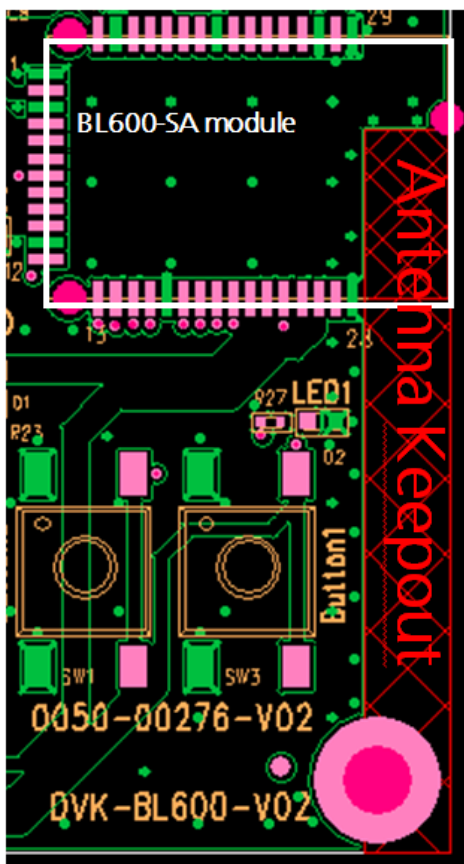

Figure 11: Antenna keep-out area (shown in red), corner of the BL600 development board for BL600-SA module.
- The BL600 development board has the BL600-SA module on the edge of the board (not in the corner). The antenna keep-out area is defined by the BL600 development board which was used for module development and antenna performance evaluation is shown in Figure 11, where the antenna keep-out area is ~4.2 mm wide, 34.2 mm long; with PCB dielectric (no copper) height 1.539 mm sitting under the BL600-SA antenna.
- The antenna-keep-out defined in Figure 11 applies when the BL600-SA is placed in the corner of the host PCB. When BL600-SA cannot be placed as such, it must be placed on the edge of the host PCB and the antenna keep out must be observed. An example is shown in Figure 11.
- Follow the 50-Ohms trace design used on the BL600 development board (PCB stack-up in Figure 11). If this PCB-stack-up is not practical on customer design then design 50-Ohms for differing PCB stack-up.